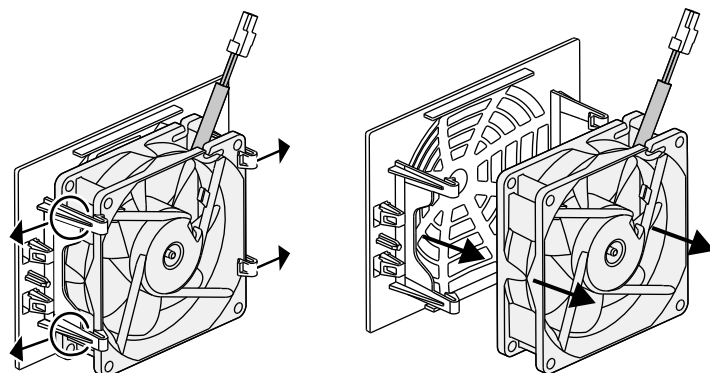

Fig. 74: Disassembly of the fan grill
5. The fan can also be pulled off the fan grill. To do this, press the fastening straps slightly outward and pull off the fan. **Fig. 74**